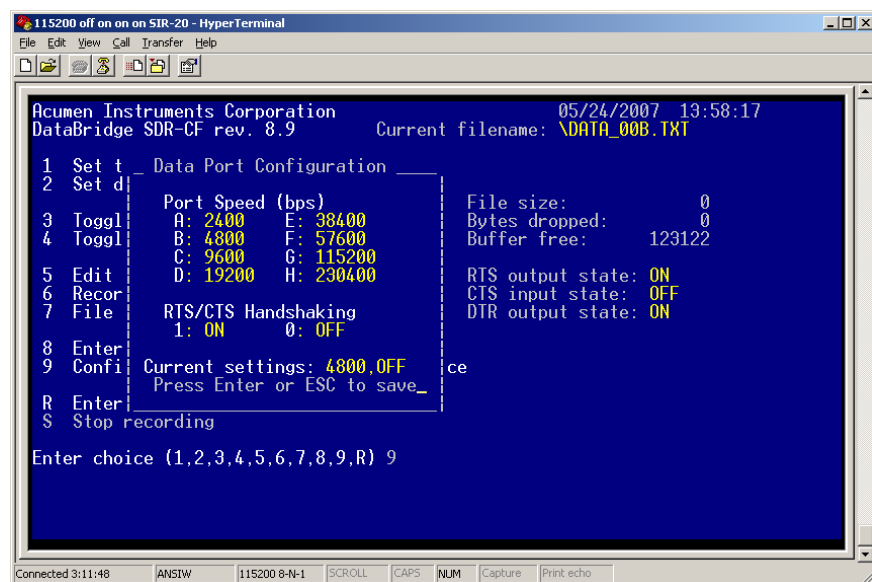

Figure 4: Data Port Configuration menu.
- 13** Press **9** to view the Data Port Configuration (Figure 4). Be sure the current settings are appropriate for the GPS you are using.
- 16** Press 9 to view the Data Port Configuration (Figure 4). Be sure the current settings are appropriate for the GPS you are using.